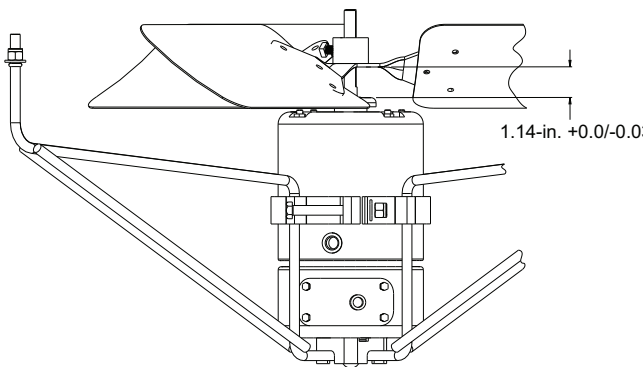

Fig. 35 — ECM Condenser Fan (Size 11)
4. Adjust fan height as shown in Fig. 35.